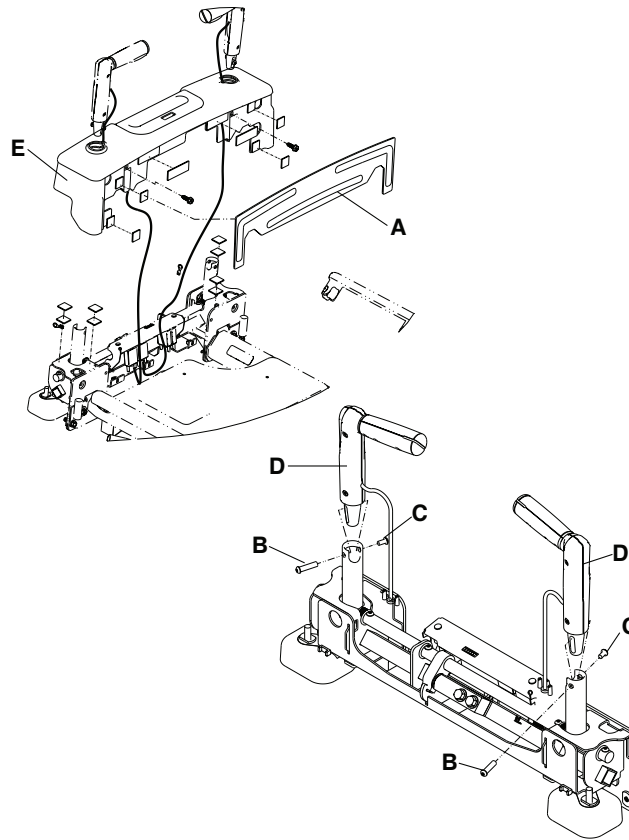

Figure 53 – Zoom handle assembly replacement
1. Remove the back display cover (A) (Figure 53).